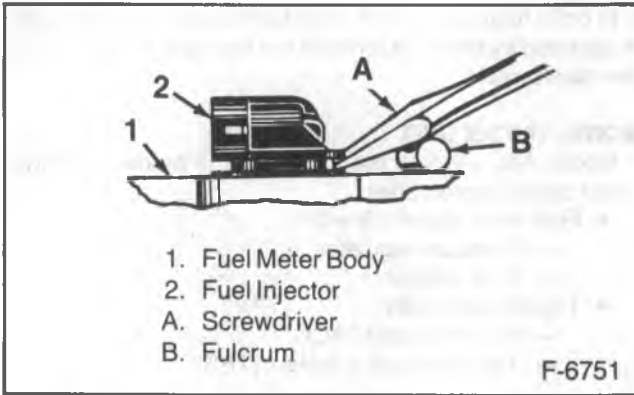

Figure 4—Removing TBI 700 Fuel Injector
- Using a fulcrum, place a screwdriver blade under ridge opposite connector end and carefully pry injector out (refer to figure 4).